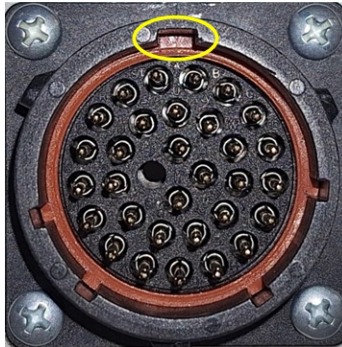

Figure 30. Master Keyway.
7. Align the Communications Cable plug's master keyway with the master keyway in the circular connector receptacle at the 3rd party system. See Figure 30.